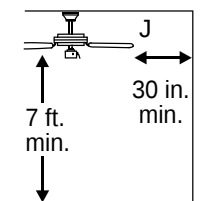

Fig. 3
3. Check to make sure blades (J) are at least 30 in. from any obstruction. Check downrod (A) length to ensure blades (J) are at least 7 ft. above the floor. [Fig. 3]